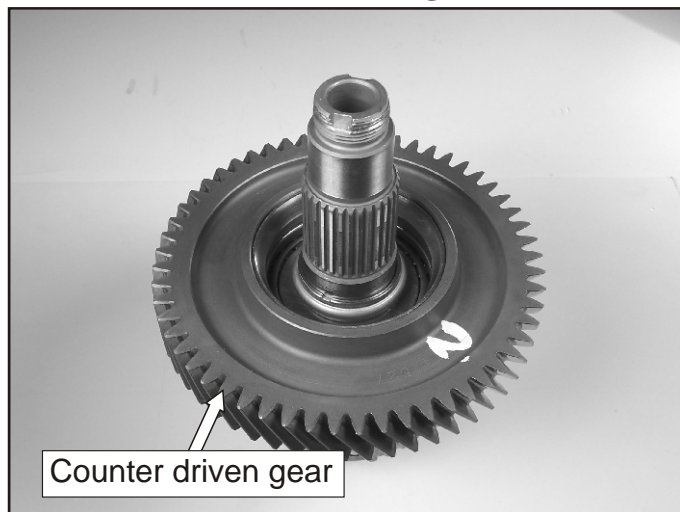

Figure 166
- 111. Install the counter driven gear onto the C3 planetary shaft as shown in Figure 166.